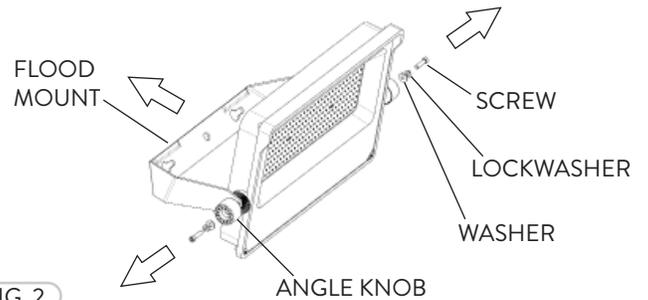
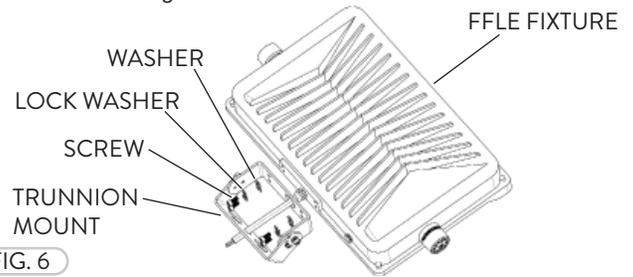
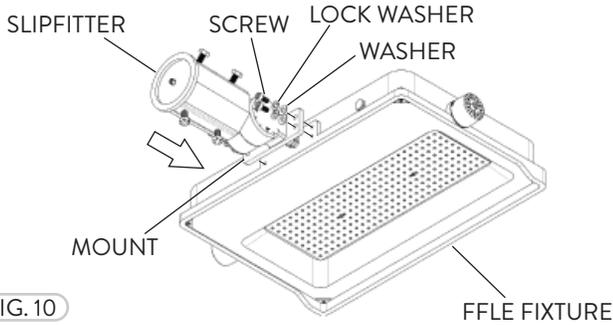

FIG. 2
FIG. 6
FIG. 10
The Flood Mount can be removed for all FFLE fixtures. If installed, remove the Flood Mount by removing the Screws, Lock Washers, Washers, and Angle Knobs (Fig. 2).
1 The Trunnion Mount is available for all FFLE fixtures. If installed, remove the Flood Mount by removing the the Cap Head Screws (Refer to Fig. 2). Install the Trunnion Mount, Cap Head Screws, Lock Washers, and Washers by aligning to the holes (4) at the base of the FFLE fixture (Fig. 6).
- 1 The Slipfitter Mount is available for all FFLE fixtures. If installed, remove the Flood Mount by removing the the Cap Head Screws (Refer to Fig. 2). Install the FFLE Slipfitter Mount with the Mount, Screws, Washers, and Lock Washers (Fig. 10).